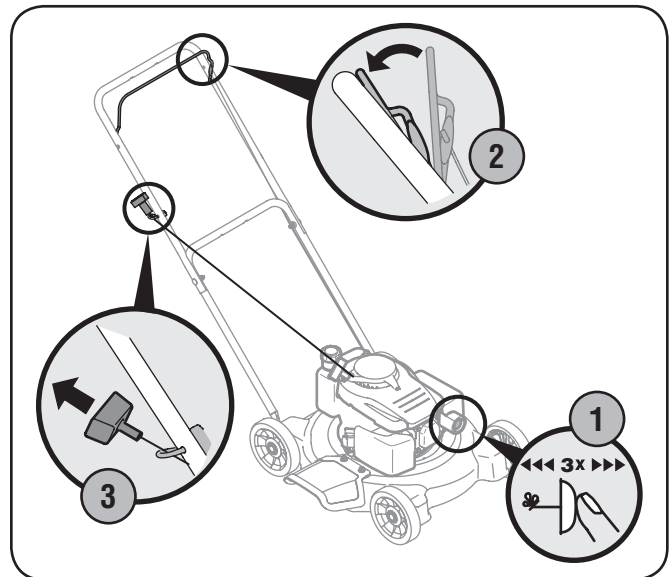

Figure 5-2
1. Push primer 3 times. Wait about two seconds between each push. See Fig. 5-2. In temperature below 50°F, prime 5 times. After the engine is warmed up, one prime may be needed for all temperatures.
3. Pull the recoil starter lightly until resistance is felt, then pull rapidly to overcome compression, prevent kickback, and start the engine. Repeat if necessary. See Fig. 5-2.